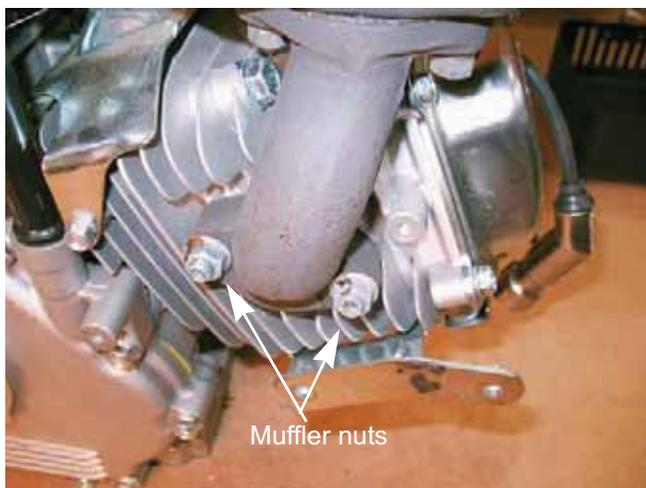

Figure 8.10
6. Remove the two muffer nuts using a 13mm wrench and lift the muffer off of the engine. See Figure 8.10.